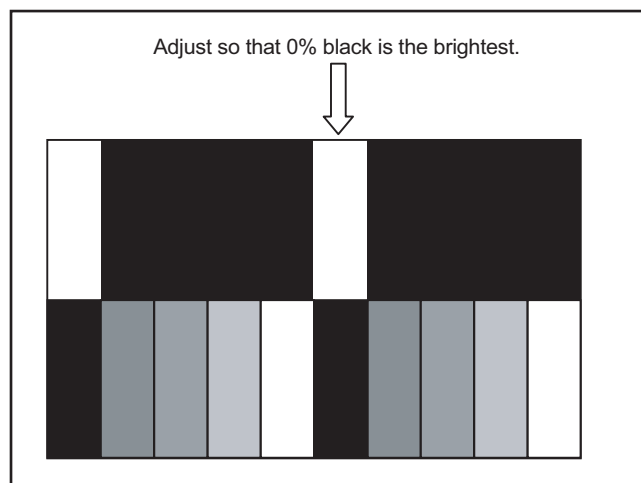

Fig.5
| COMPOSITE INPUT BLACK LEVEL | Remote control unit Signal generator | | <p>[2. YC SEP] YCM131: (NO DISPLAY) (BRIGHTNESS)</p> <p>[1. PICTURE/SOUND] S13: RDRV (R DRIVE) S15: GDRV (G DRIVE) S17: BDRV (B DRIVE) S19: CUTR (R CUTOFF) S21: CUTG (G CUTOFF) S23: CUTB (B CUTOFF)</p> <p>F44: (NO DISPLAY) (Picture control) F45: (NO DISPLAY) (Picture control mode sw) F46: OUT LV. (Output level upon detection) F47: LMT BTM (Minimum value upon detection) F48: LMT TOP (Maximum value upon detection)</p> | <p>(1) Input NTSC signal that shows brightness gradation with 0% black.</p> <p>(2) Set "VIDEO STATUS" to STANDARD.</p> <p>(3) Set "ASPECT" to FULL.</p> <p>(4) Select "COLOR TEMPERATURE" to LOW.</p> <p>(5) Select "1.PICTURE/SOUND" from the SERVICE MODE.</p> <p>(6) Set < F44 > (Picture control) to "001" and < F45 > (Picture control mode sw) to "000" to set Y ADJUST MAX MODE.</p> <p>(7) Set < F46 > (Output level upon detection), < F47 > (Minimum value upon detection), and < F48 > (Maximum value upon detection) to values as shown in the left table.</p> <p>(8) Select "2. YC SEP" from the SERVICE MODE.</p> <p>(9) Adjust < YCM131 > (BRIGHTNESS) so that 0% part of gradation is the brightest. (Fig. 5)</p> <p>(10) Press the [MUTING] key to memoirize the set value.</p> <p>(11) Select "1.PICTURE/SOUND" from the SERVICE MODE.</p> <p>(12) Set < F44 > (Picture control) to "000" to cancel Y ADJUST MAX MODE.</p> <p>(13) Press the [MUTING] key to memoirize the set value.</p> |